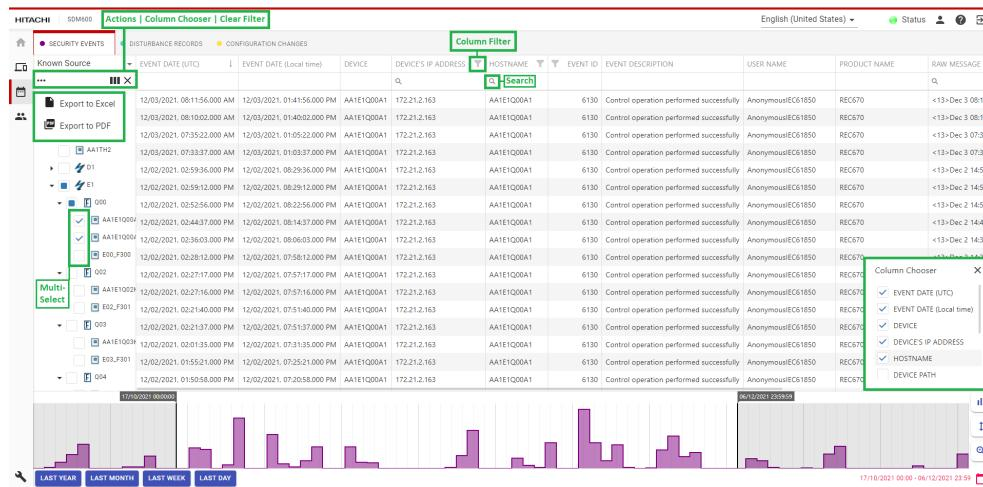

Figure 44: Cybersecurity Events
2. Column Chooser: This option allows the user to select the columns of the grid that are displayed, see Figure 44.